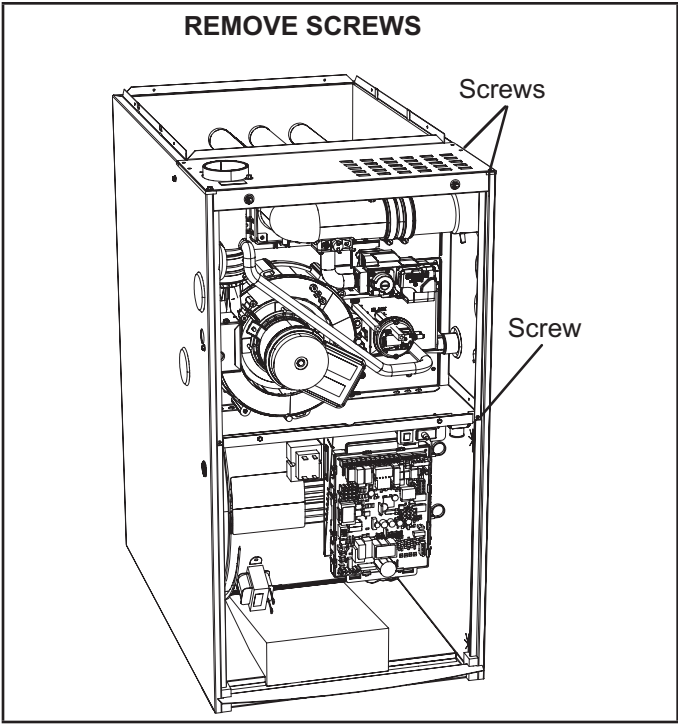

FIGURE 56
- 5 - Remove the air intake coupling. If the air intake coupling is still too difficult to remove, then remove the two screws from the right side of the top cap and one from the far right side of the blower deck that attaches to the cabinet. See FIGURE 56. Carefully pull cabinet side away from air intake coupling, then remove the air intake coupling. Note: Be careful not to bend the cabinet side.